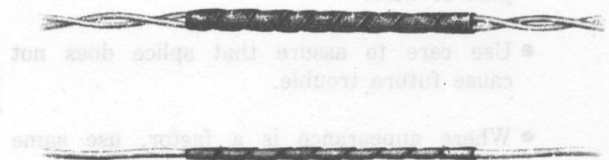

Fig. 4—Taping Splice
(5) Cover each sleeve with a single, half-lapped layer of friction tape and then wrap entire splice with a single, half-lapped layer of tape extending tape 2-1/2 inches beyond each end of area from which outer covering was removed (Fig. 4).
(6) Where damp or outdoor locations are encountered, use rubber tape before placing friction tape.